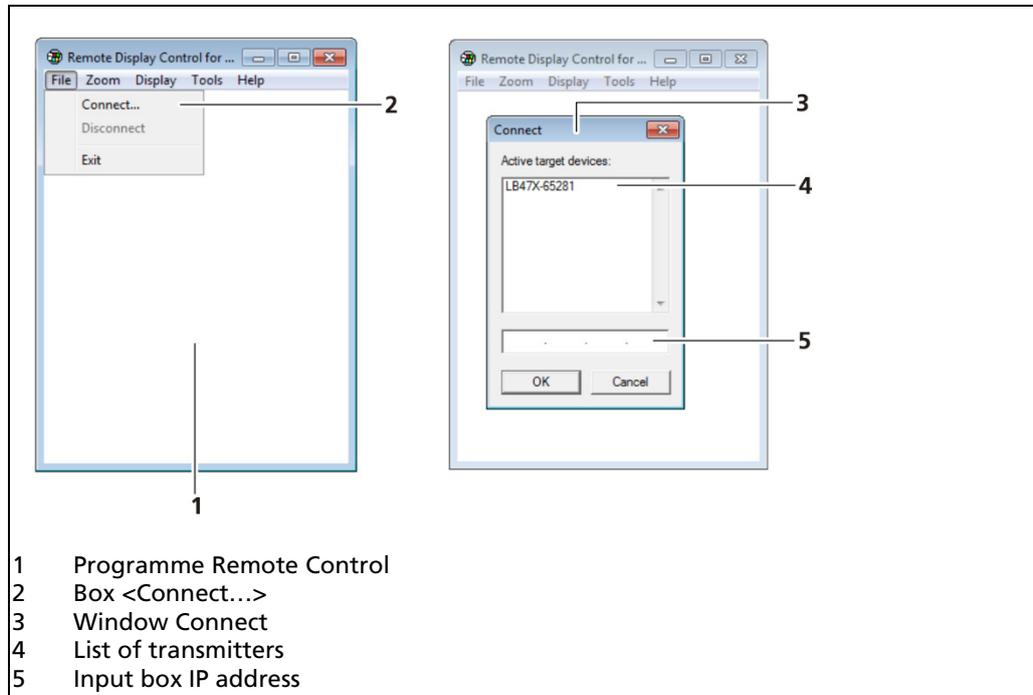

Fig. 40 Establish connection to the EVU using the RC software
- ▶ The program starts (Fig. 40).
- ▶ A new window "Connect" opens (Fig. 40).